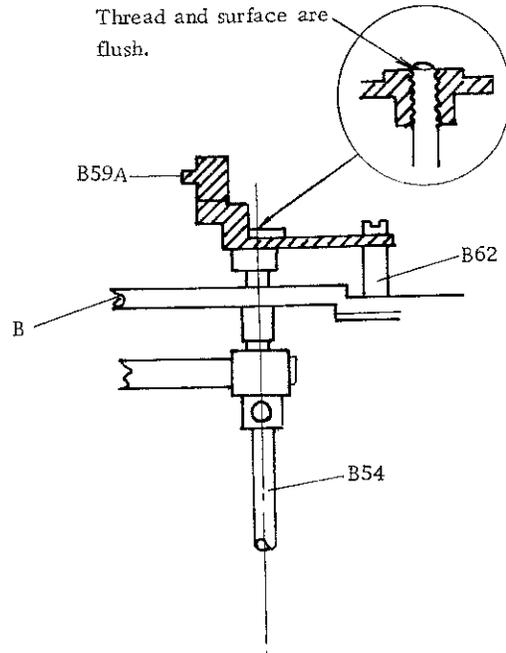

Fig. 14
- b. Screw the signal lever (B59A) into the threaded hole on the shaft (B54) end. Secure the screw (B62) at a position where the threaded hole end is aligned flush with the signal lever surface. (Fig. 14)